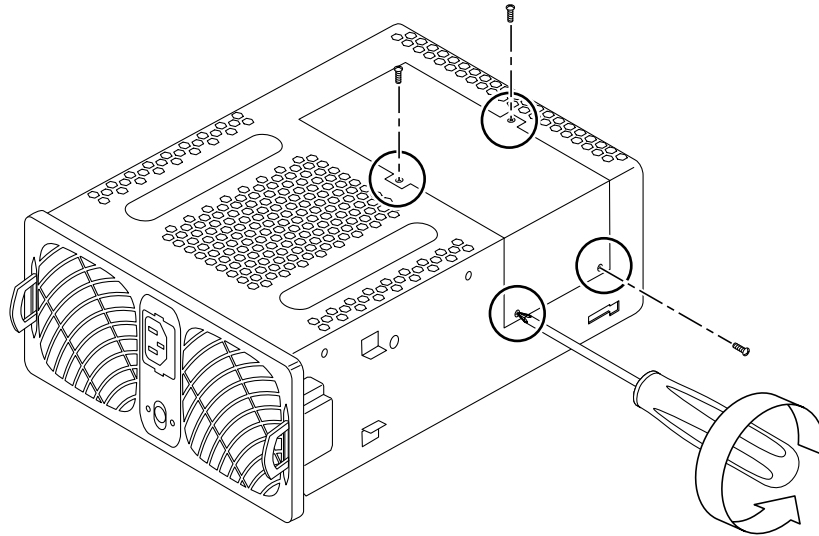

FIGURE 7-5 Removing the Screws from the PCU Bottom Panel
3. Remove the four Phillips screws from the panel on the bottom and side of the PCU as shown in FIGURE 7-5.
See FIGURE 7-5.